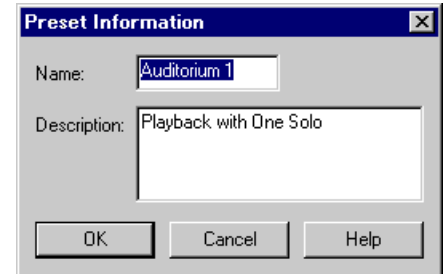

Figure 19 – Rename Preset Dialog
6. The Rename Preset dialog will appear, as pictured to the right in figure 19.